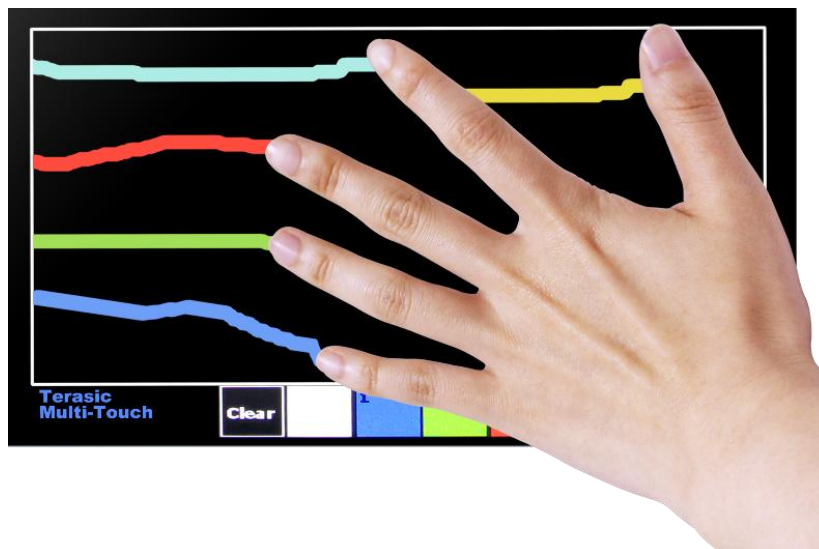
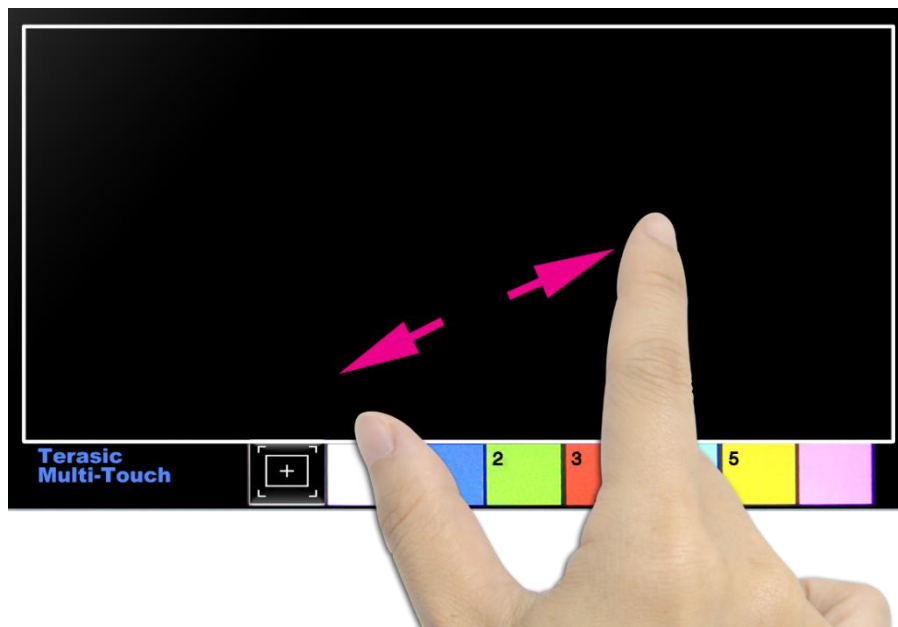

Figure 4-4 Five Point Touch Painting
Figure 4-5 Zoom-in Gesture
- **Figure 4-4** shows the photo when users paint in the canvas area. **Figure 4-5** shows the photo when zoom-in gesture is detected.